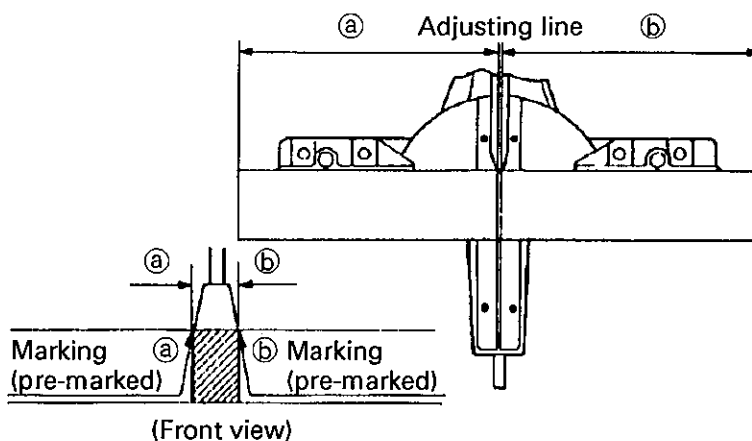

Fig. 26
- (1) As shown in Fig. 26 the width of the saw blade is the width of the cut. Therefore, slide the workpiece to the right (viewed from the operator's position) when length (b) is desired, or to the left when length (a) is desired.